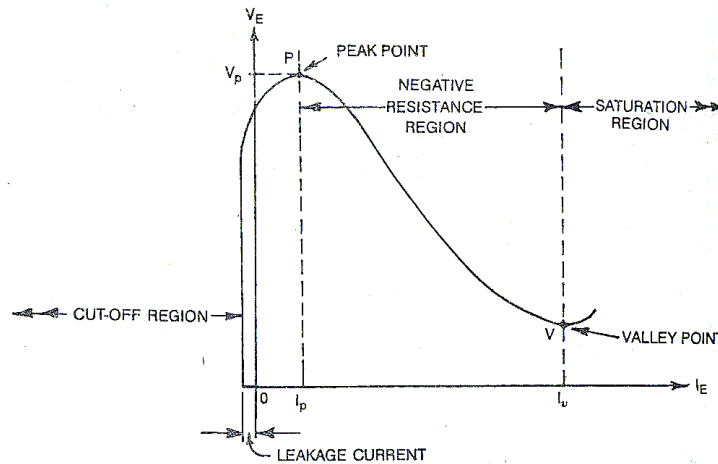

Fig. 28(a)
**Marks (4)**
**Ans:** The static emitter characteristics of a UJT is shown in fig. 28(a)
(i) When  $V_E$  is zero and a given voltage  $V_{BB}$  is applied across the bases i.e.,  $B_2$  and  $B_1$ , the emitter junction is reverse biased and the UJT is in the cut-off region. A slight leakage current flows from terminal  $B_2$  to emitter due to minority carriers. This current is just a reverse current as it is shown in the figure. 28(a)